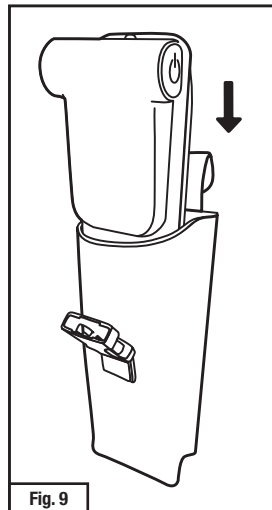

Fig. 9
3. The heavy duty holster can be worn on either side of the waist belt. If choosing to wear the battery and holster on **right** side of waist belt, slide the TR-659 adapter with battery into the TR-656 heavy duty holster with battery side facing belt loop (back) of the holster (Fig. 9).